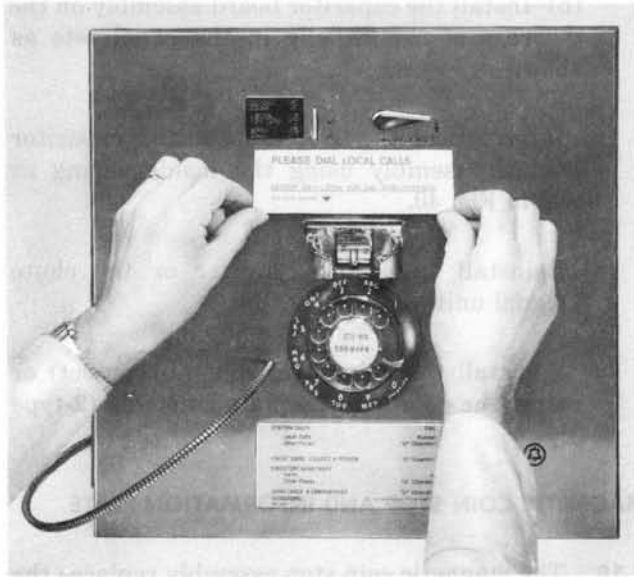

Fig. 35—Installing Instruction Card in 2-Type Set With Cam
- (1) Turn the cam until the low side is adjacent to the card opening by using a No. 4 (.050) Allen wrench.
- (2) Push up the instruction card with your fingers as shown in Fig. 35.
- (3) Snap the instruction card in place.
- (4) Ensure that the instruction card is seated properly in the slot.
- (5) Secure the instruction card by turning the cam 180 degrees, either clockwise or counterclockwise.